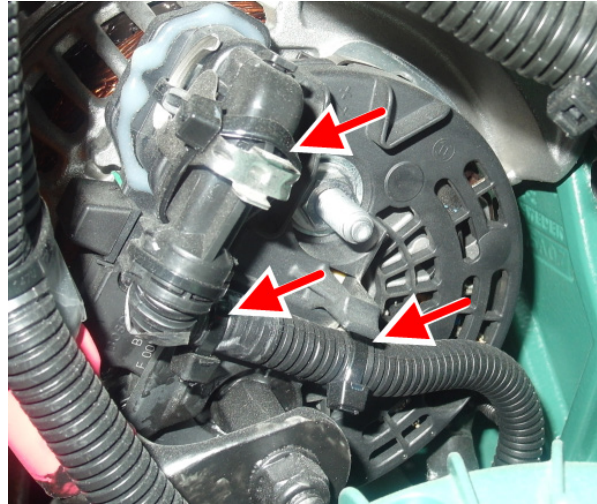

FIGURE 49
- Secure the alternator harness using nylon cable ties P/N 504637 positioned as shown by red arrows on FIGURE 49.